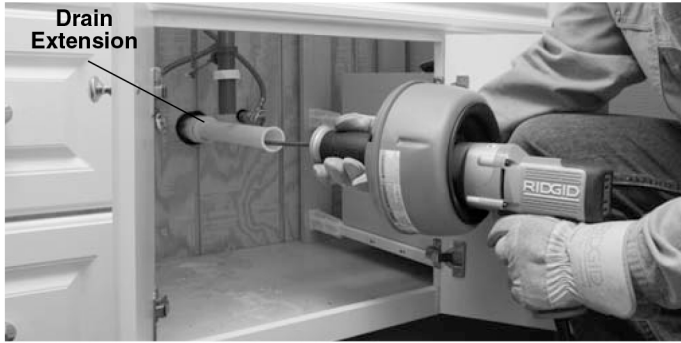

Figure 6 – Example Of Extending Drain To Within 6" (15cm) Of Drum Opening
6. Determine if the K-45 cable outlet can be placed within 6" (15cm) of the drain opening. If not, the drain opening will need to be extended using similar size pipe and fittings so that the K-45 cable outlet can be placed within 6" (15cm) of the drain opening (See Figure 6). Improper cable support can allow the cable to kink and twist and damage the cable/fixture or injure the operator.